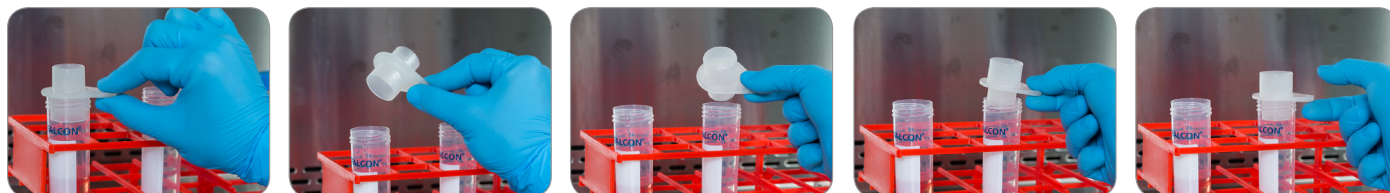

Figure 3. Flip the reversible strainer onto a new conical tube. The arrow is pointing downwards.
3. Flip strainer onto a new 50 mL conical tube (Fig. 3).